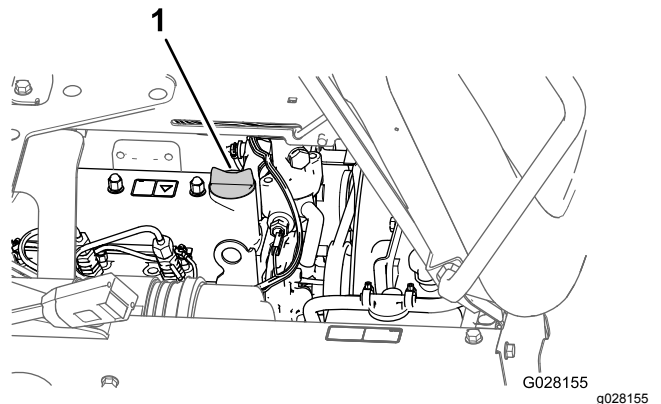

Figure 72
5. Remove the oil-filler cap from filler neck of the valve cover of the engine (Figure 72) and slowly pour approximately 80% of the specified amount of oil into filler neck.
8. Install the oil-filler cap into the filler neck (Figure 72).